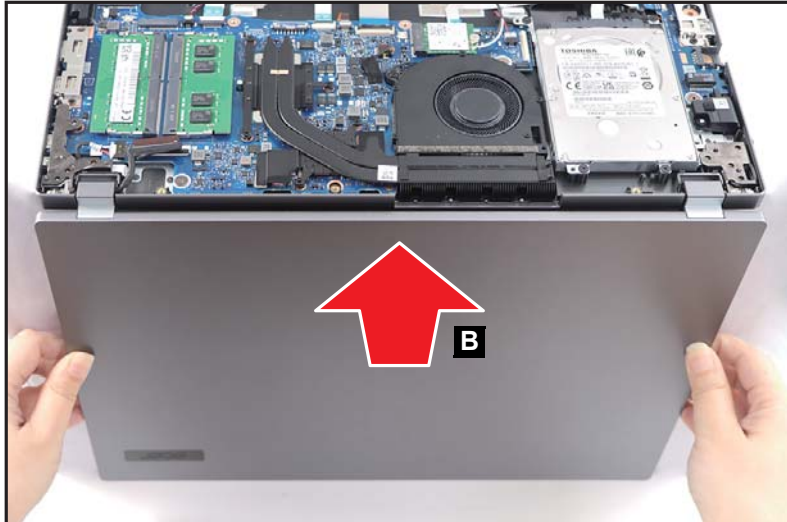

Figure 1-20. LCD Module Removal
3. Remove the LCD module (B) away from the top assembly (Figure 1-20).